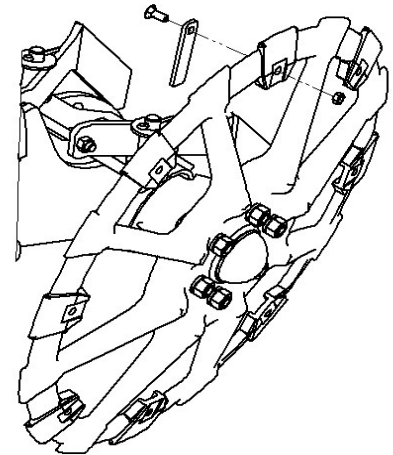

Figure 45: Adding or Removing Rim Mounted Filler Tabs
NOTE: If bolts (B) are removed, they must be reassembled in holes (C) shown below in Figure 45. The bolts must line up exactly in line with the opposite spokes of the lifter wheels or they will not line up correctly on the wheel fillers.
2. Fasten with a bolt and nut as shown in Figure 45.